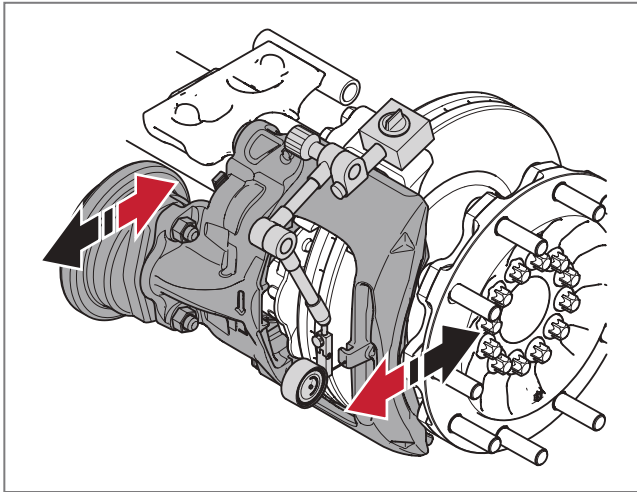

Fig. 34 - Measuring the brake calliper clearance
3. Tilt the brake calliper in the direction of the black arrows, see ► Fig. 34.
5. Now tilt the brake calliper in the direction of the red arrows and read the clearance from the dial gauge, see ► Fig. 34.